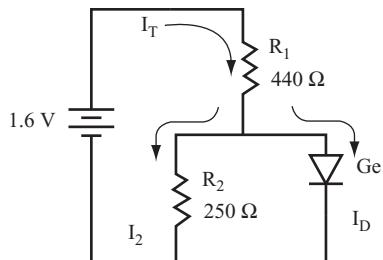

FIGURE 2.22
- 21** To find the current in the diode for the circuit shown in Figure 2.22, answer the following questions in order.